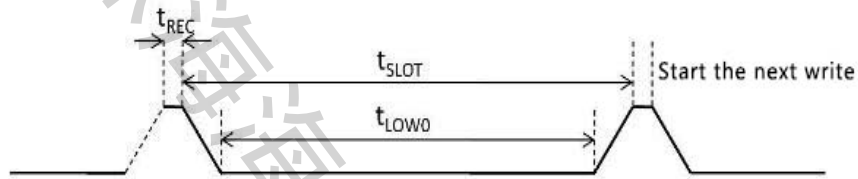

Figure 3: Time sequence diagram for writing 0
- E. Please refer to Figures 3, 4, 5, and 6 for the timing diagrams.